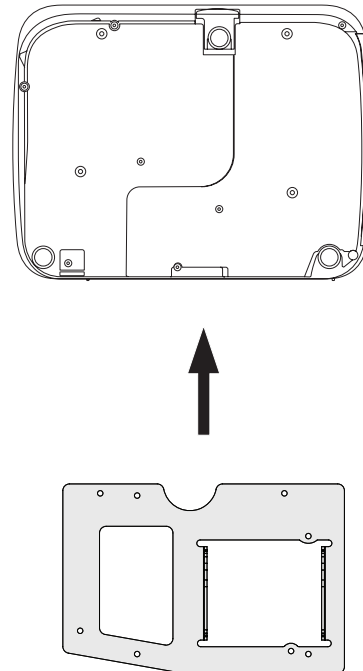

Figure 1
- 4 Place the bracket on the projector (Figure 1).